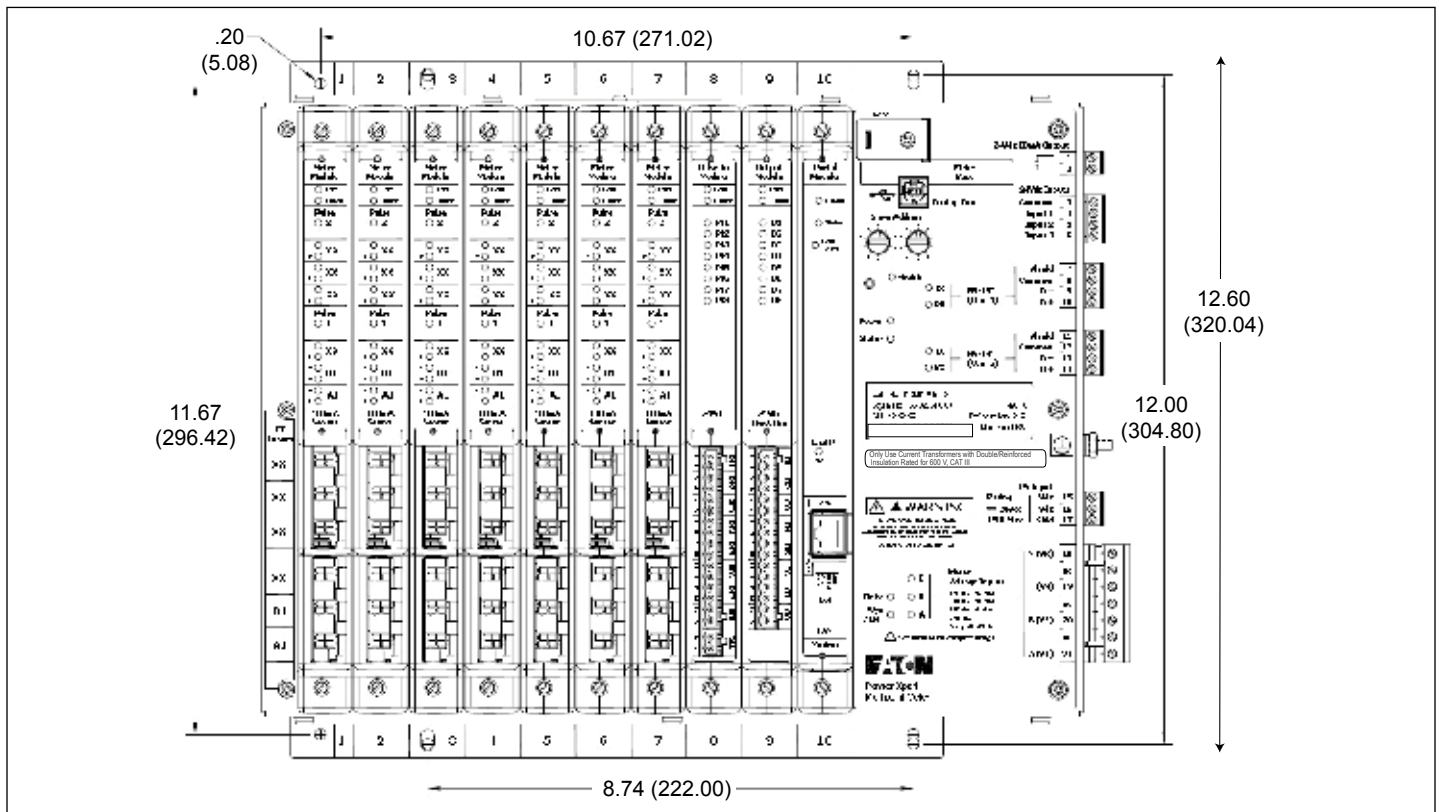

Figure 39. Mounting Template for the PXMP Meter Assembly.
- Sufficient open area to provide clearance around and in front of the PXMP Meter assembly (see **Figure 39** for dimensions) after it is mounted in the enclosure;
1. Once a suitable mounting location is determined in the enclosure (see Section 4.3.1), use the mounting template (see **Figure 39**) to prepare the mounting surface.